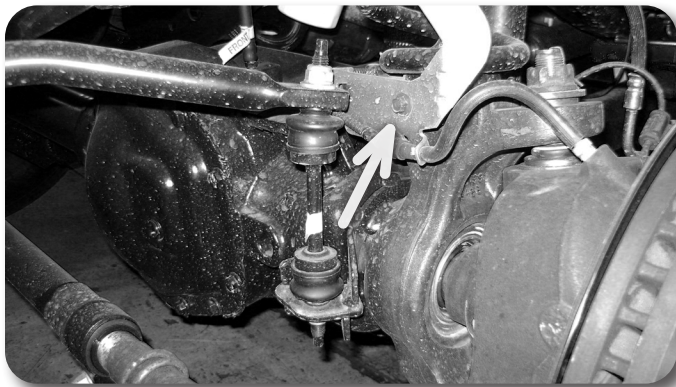

Figure 2
6. Disconnect the front brake line brackets from the axle **Figure 2**. Save hardware.